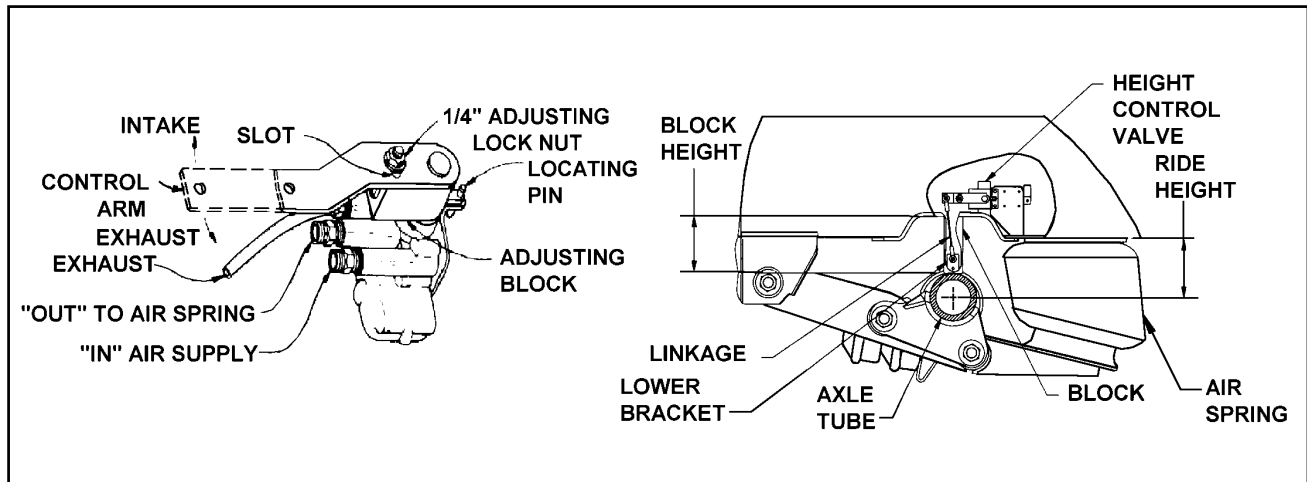

Figure 4-4 Air Ride Height Adjustment
### 4-6.3 Air Ride Height Adjustment. (See Figure 4-4 for parts identification).
- b. Disconnect linkage at the control arm and raise control arm to the “up” position, raising the trailer until a block can be placed between axle tube and undercarriage frame (See Figure 4-4).
- f. Loosen the 1/4" adjusting lock nut located on the adjusting block, allowing the control arm to move approximately 1 inch. Move the adjusting block until holes align, then insert locating pin. (See Figure 4-4).